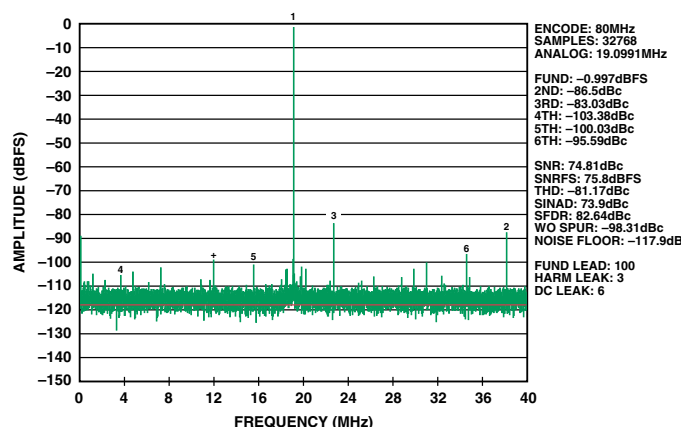
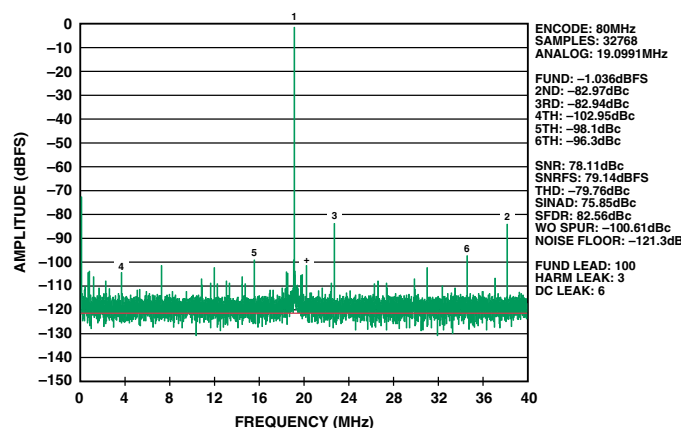
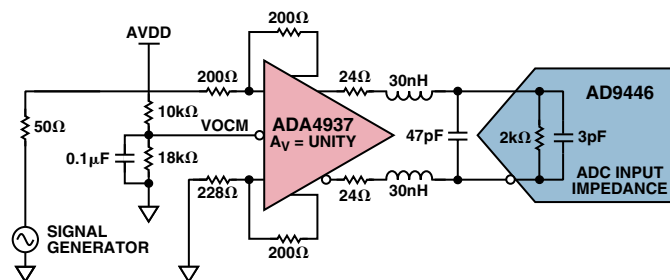

Figure 1. ADA4937 amplifier driving an AD9446-80 ADC at 80 MSPS without a noise filter.
Figure 2a. Driving an AD9446-80 with a 100-MHz noise filter.
Figure 2b. Schematic diagram of ADA4937 amplifier driving an AD9446-80 ADC at 80 MSPS with a 2-pole noise filter.
A. A typical amplifier that might be considered, the ADA4937,¹ for example, when configured for $G = 1$, has an output noise spectral density of $6 \text{ nV}/\sqrt{\text{Hz}}$ at high frequencies, compared to the $10 \text{ nV}/\sqrt{\text{Hz}}$ input noise spectral density of the 80-MSPS AD9446-80.² The problem here is that the amplifier has a noise bandwidth equivalent to the full bandwidth of the ADC, around 500 MHz, while the ADC noise is folded to one Nyquist zone (40 MHz). Without a filter, the integrated noise then becomes $155 \text{ } \mu\text{V rms}$ for the amplifier and $90 \text{ } \mu\text{V rms}$ for the ADC. Theoretically, this degrades the overall system SNR (signal-to-noise ratio) by 6 dB. To confirm this experimentally, the measured SNR, with the ADA4937 driving the AD9446-80, is 76 dBFS, and the noise floor is -118 dB (Figure 1). With a transformer drive, the SNR is 82 dBFS. The driver amplifier has thus degraded the SNR by 6 dB.
To make better use of the ADC’s SNR, a filter is inserted between the amplifier and ADC. With a 100-MHz 2-pole filter, the amplifier’s integrated noise becomes $71 \text{ } \mu\text{V rms}$, degrading the ADC’s SNR by only 3 dB. Use of the 2-pole filter improves the SNR performance of the Figure 1 circuit to 79 dBFS, with a noise floor of -121 dB , as shown in Figure 2a. The 2-pole filter is built with $24\text{-}\Omega$ resistors and 30-nH inductors in series with each of the amplifier’s outputs, and a 47-pF differentially connected capacitor (Figure 2b).